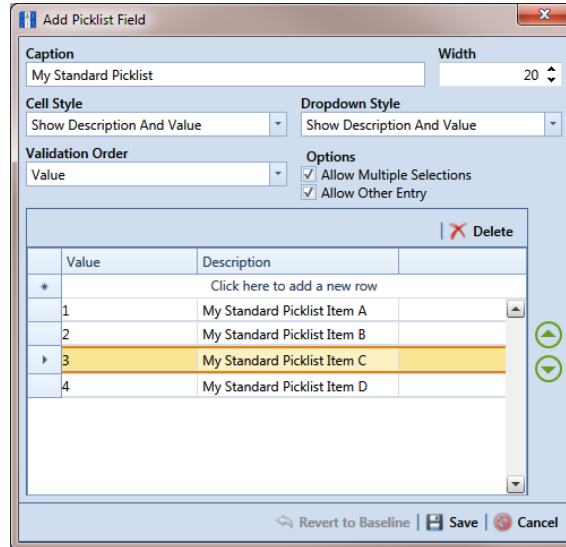

Figure 3-40. Add Picklist Field
- 6 When the *Add Picklist Field* dialog box opens, type a unique name for the UDF in the **Caption** field (Figure 3-40, page 83).
- a Click the message **Click here to add new row** to add an empty row of fields for data entry (Figure 3-40, page 83).